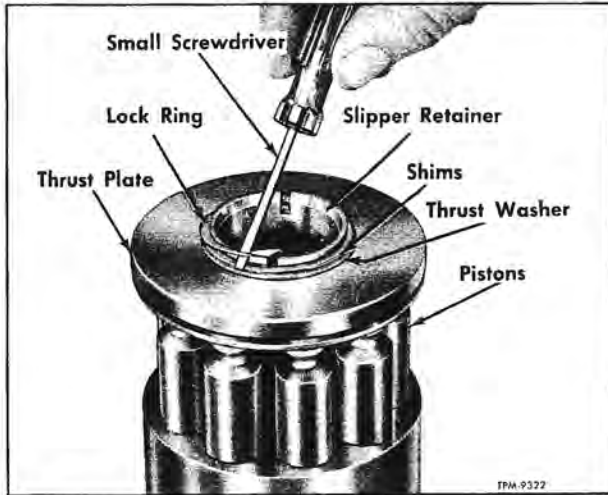
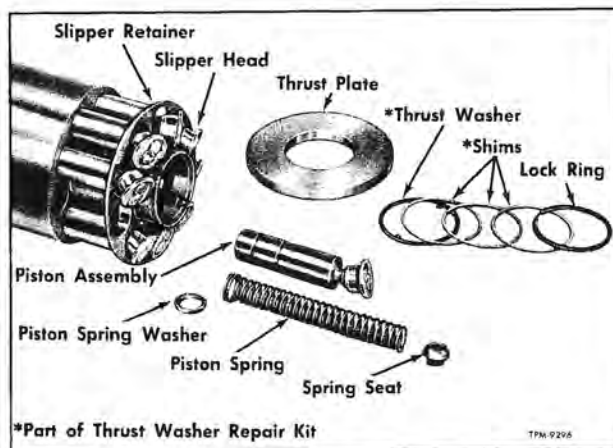

Figure 45—Removing Lock Ring From Pump Slipper Retainer
Figure 46—Pump Cylinder Block Disassembled
9. Using a small screwdriver or a knifeblade, remove lock ring (8) from groove of slipper retainer (12) as shown in figure 45. Shims (9), thrust washer (10), thrust plate (11) and slipper retainer (12) may then be removed. See figure 46 which shows parts removed.
10. Lift pistons (14), piston spring seats (15), piston springs (16), and spring washers (17) from
6. Referring to figure 46, assemble thrust washer (10), shims (9), and spiraloc snap ring (8) over end of slipper retainer. **NOTE:** Thrust washer tangs must engage slots on slipper retainer (12).
**IMPORTANT:** Shims (9) are available in .005" and .015" thickness. Select shims to obtain a clearance of .001" to .005" between thrust washer (10) and thrust plate (11).
7. Insert cylinder block assembly (13) into pump housing (45) with the pump placed on the work bench in a horizontal position. As cylinder block is placed into housing, turn shaft so that splines will engage splines of cylinder block. Press block into housing.
8. With pump housing still in horizontal position, insert power piston spring seat (41) into end of spring (40), then place power piston (42) over seat and spring. Insert piston assembly into housing bore.